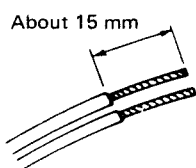

Fig. 28
2. Peel off the coverings so that the respective conductor tops appear by about 15 mm as shown in Fig. 28.